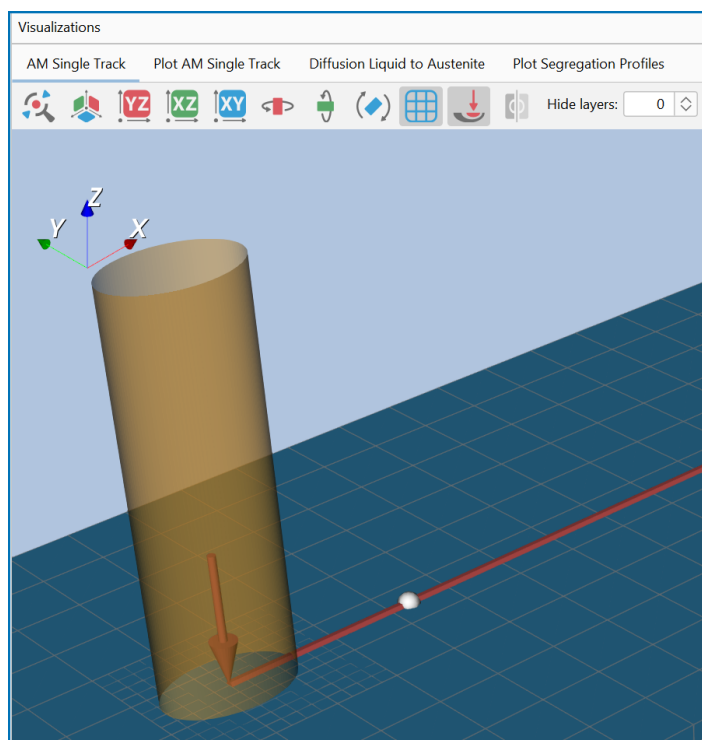

Figure 85: Close up of the probe point added to the geometry for the single track AM simulation.
- **Probes:** Probes are added to the AM Calculator during the set up either by entering coordinates or directly adding these to the geometry. See Figure 85 and Figure 86 for example.